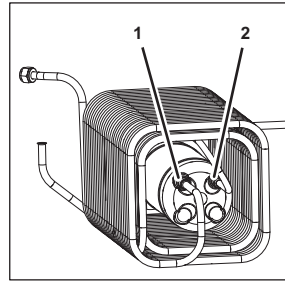

Figure 79
11. Disconnect the soda cooling line from the coupling (Figure 79/1).
12. Disconnect the soda water line from the coupling (Figure 79/2).
17. Attach the soda water line to the coupling (Figure 79/2).
18. Attach the soda cooling line to the coupling (Figure 79/1).